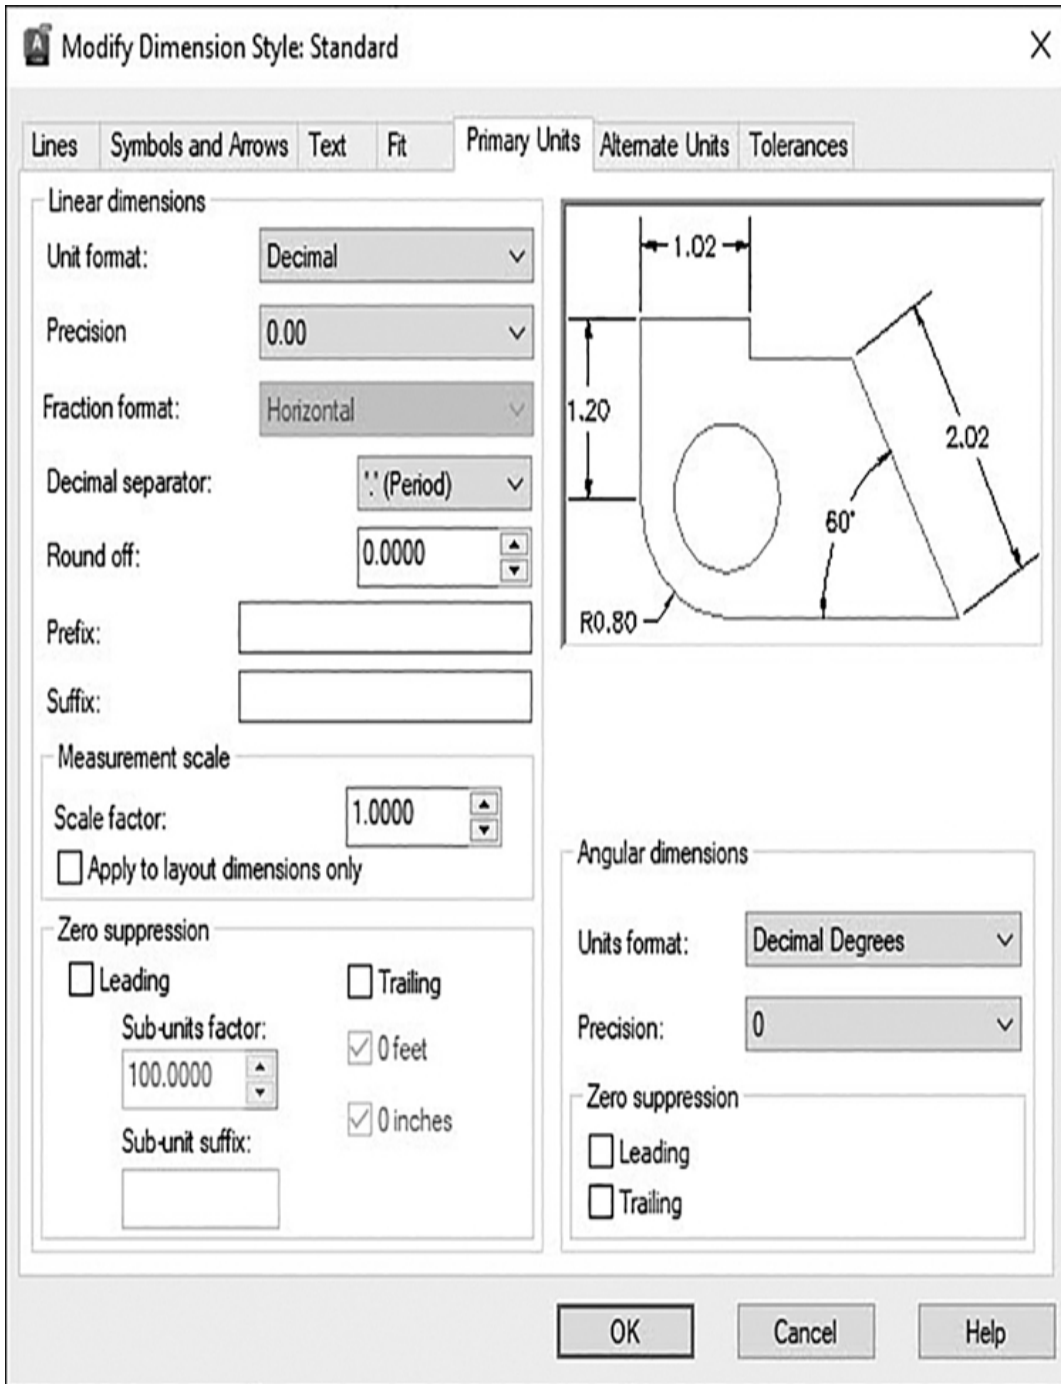

Figure 2-36
- 8** Choose the **Primary Units** tab and select **0.00** from the **Precision** drop-down list (see Figure 2-36).